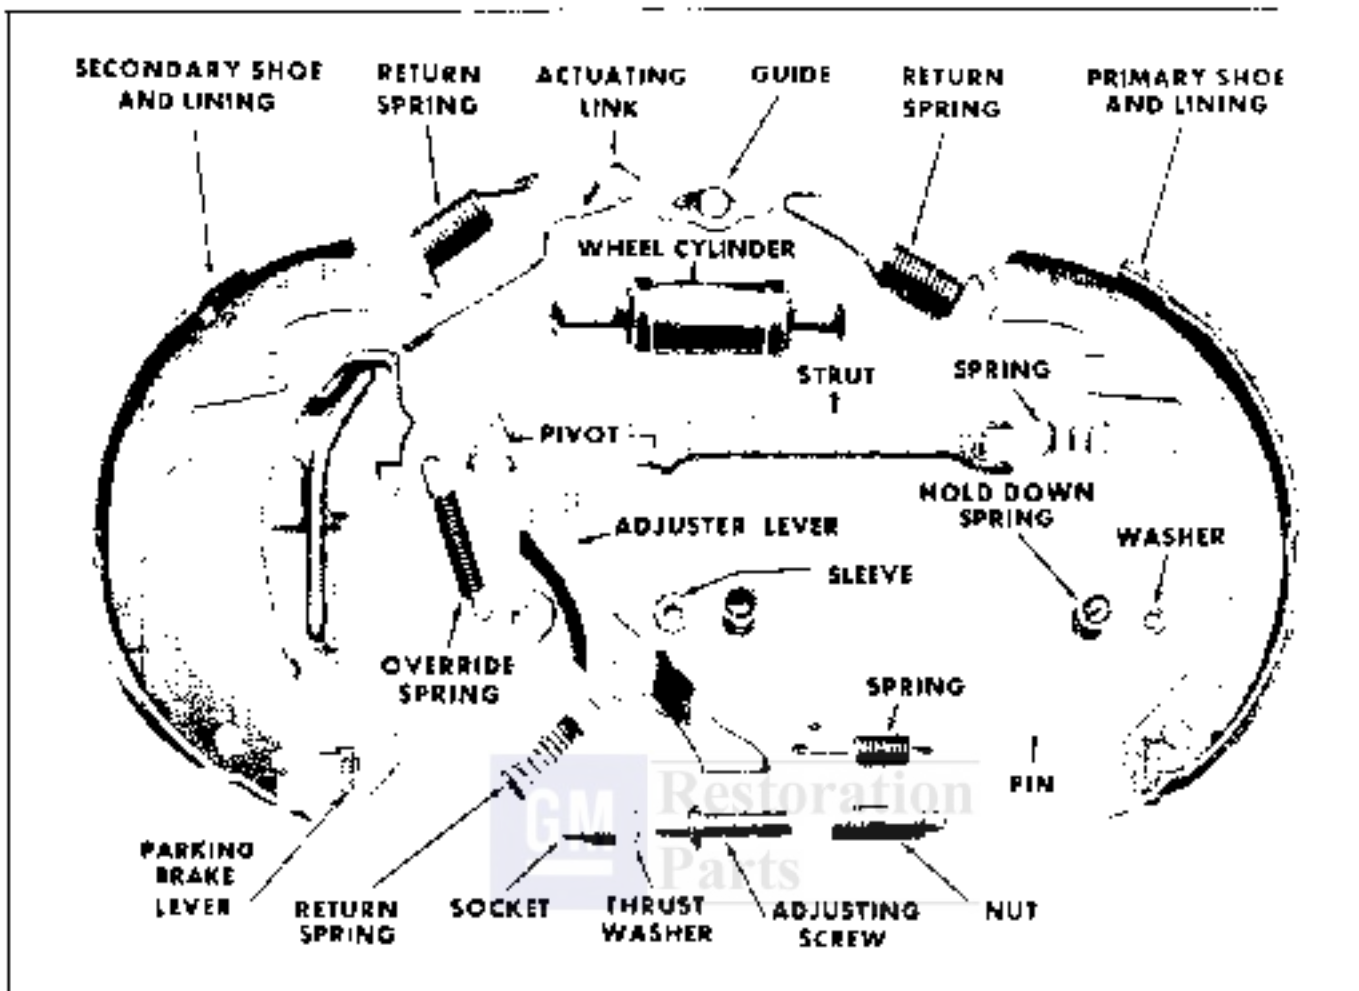

Fig. 5-7 Typical Self Adjusting Brake Assembly — Exploded View — Right Hand Side Rear
4. Remove the actuating link (Fig. 5-7).
6. Remove the brake shoe hold-down springs, pins and washers, and the adjuster lever and return spring (Fig. 5-7).
9. Engage the adjuster lever with the override pivot, then position the adjuster lever and return spring on the secondary shoe. Fasten with the hold down spring assembly (Fig. 5-7).